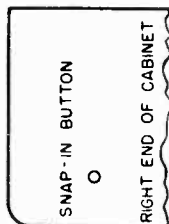

FIG. 1
2. Remove the four screws that hold the plate through which the push buttons protrude, and remove the plate. (This plate is called the "escutcheon".) If your radio is a table model (not a console), remove the snap-in button at the right side of the cabinet. See FIG. 1.